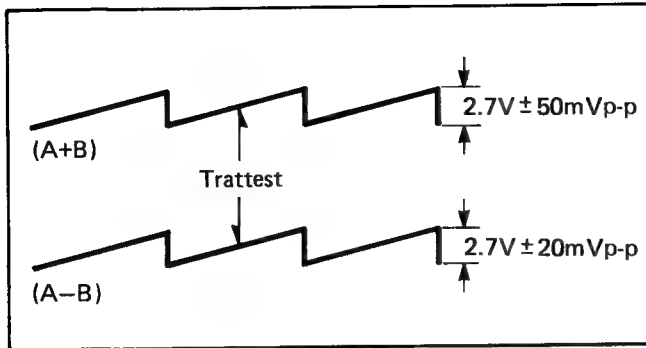

Fig. 7 A+B, A-B signal waveform
4. Connect a jumper between pin 11 of HIC6552 and ground (pin 16 of HIC6552), trigger the oscilloscope with pin 10 of HIC6552 (SZ), connect the oscilloscope with pin 32 of HIC6552 (A+B signal) and pin 9 of HIC6552 (A-B signal) and observe the waveform.
5. Then, adjust VR5102 (A+B signal offset adjustment) so that the waveform level is $2.7V \pm 50mVp-p$, adjust VR5103 (A-B signal offset adjustment) so that the waveform level is $2.7V \pm 20mVp-p$ as shown in Fig. 7.